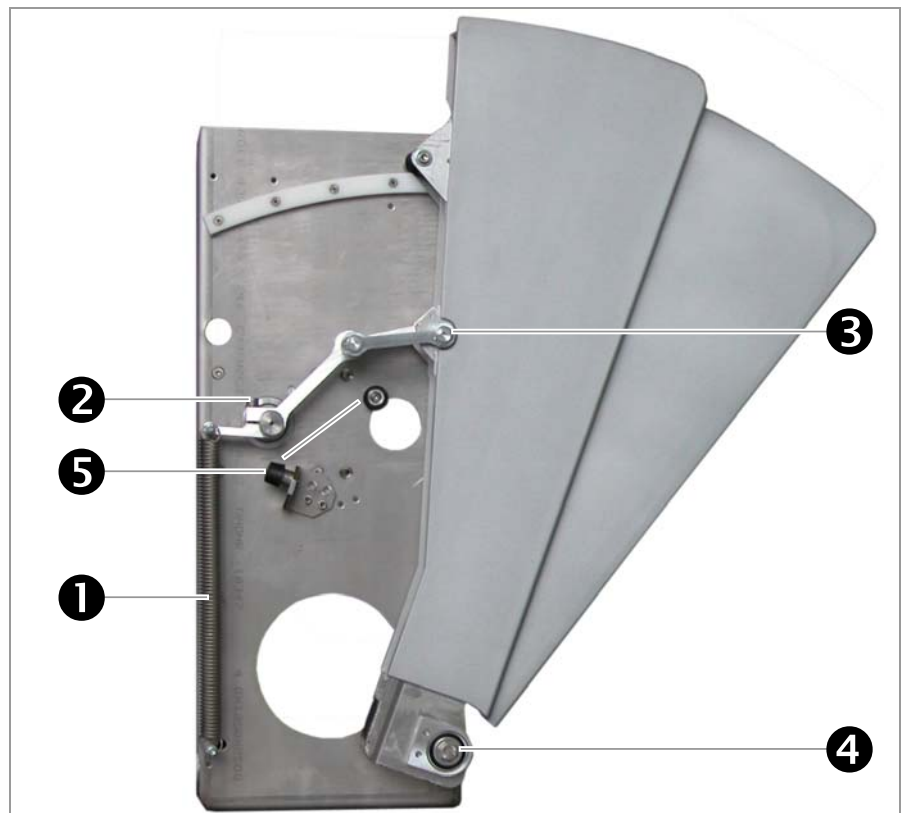

Fig. 12-1 Wing replacement
- Hang out the return spring(s). See Fig. 12-1 on page 64.